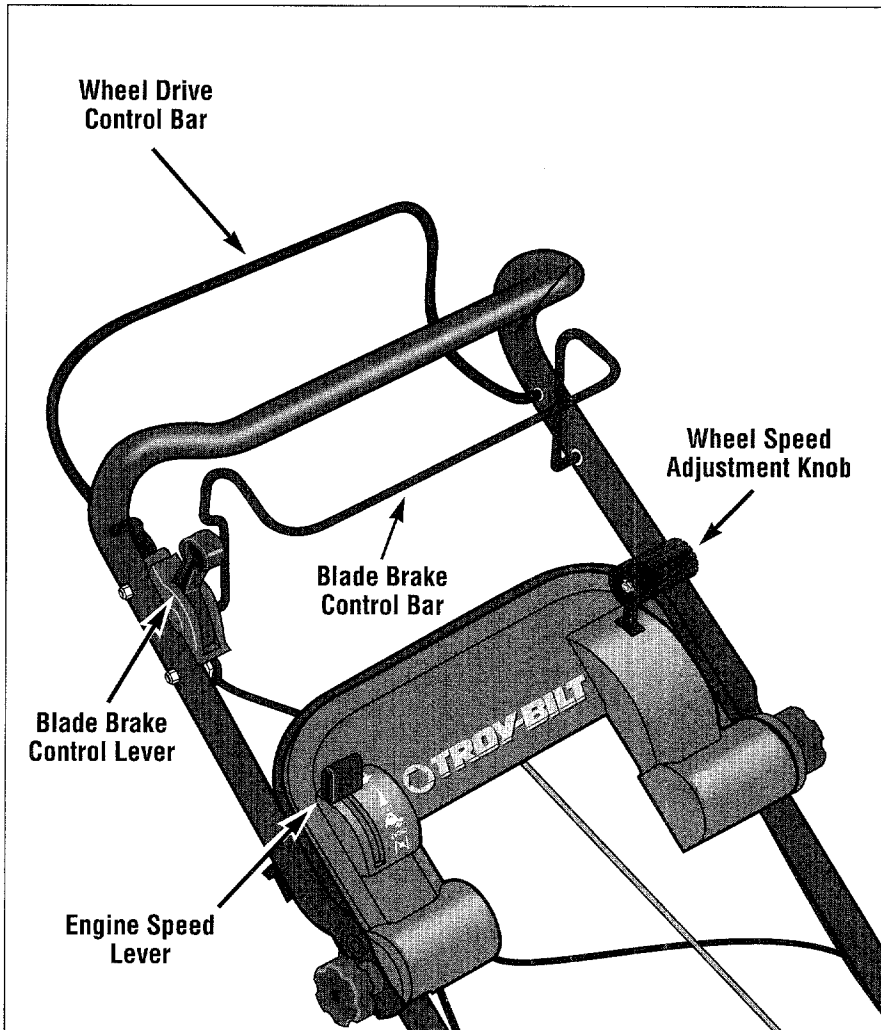

Figure 3-6: Variable Speed Model with Blade Brake Control.
This control (see Figure 3-6) regulates the speed of the engine and the blade. For best mower performance, run the engine at **FAST** speed. Using this control is fully described in the Operation Section.
This bar (see Figure 3-6) engages the wheels and allows the mower to move forward at the speed set by the Wheel Speed Adjustment Knob.
This rotary knob (see Figure 3-6), controls the forward speed of the mower. The knob has speed settings from **SLOW (1)** to **FAST (5)**. The use of this control is fully described in the Operation Section.
The bar located in front of the handlebar is a Blade Brake Control Bar with associated Blade Brake Control Lever (see Figure 3-6). In a two step procedure, the Blade Brake Control Bar and Lever engage the blade. When the Blade Brake Control Bar is released, the Blade Brake Control Lever is automatically released. **Releasing the Blade Brake Control Bar only stops the blade and does not stop the engine.** These controls are fully described in the Operation Section.